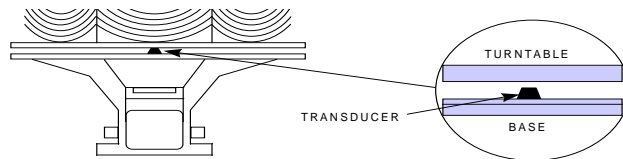

Figure 3-49
- (1) Remove the Glazing by releasing the 8 thumb latches located on the lower ring of the glazing assembly by rotating them 180 degrees. Carefully lift the glazing **straight** up from the beacon and set aside.
- (2) Look between the Base and Turntable above the CALC-20 housing for the Tacho Transducer. It should be visible against the circuit board on the Stator (a flashlight may be used). Note if any wires appear to be rubbing on the Turntable and if wires are passing above the Tacho Transducer, as shown in Figure 3-49.